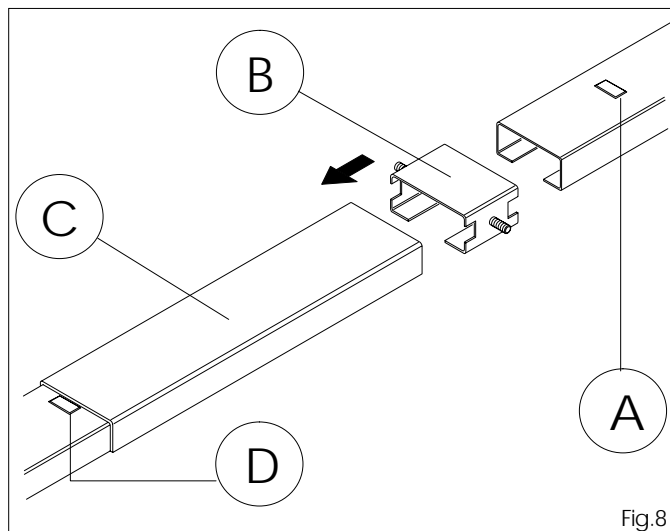
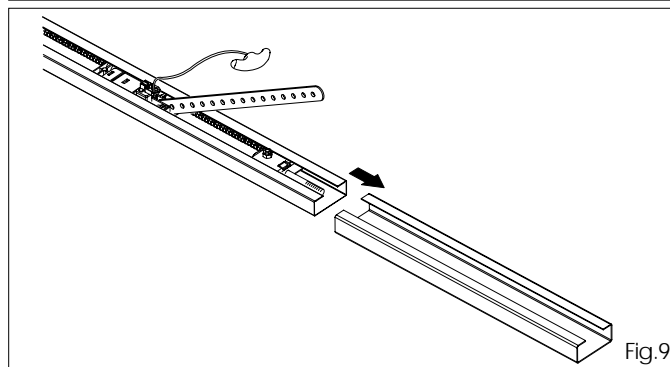
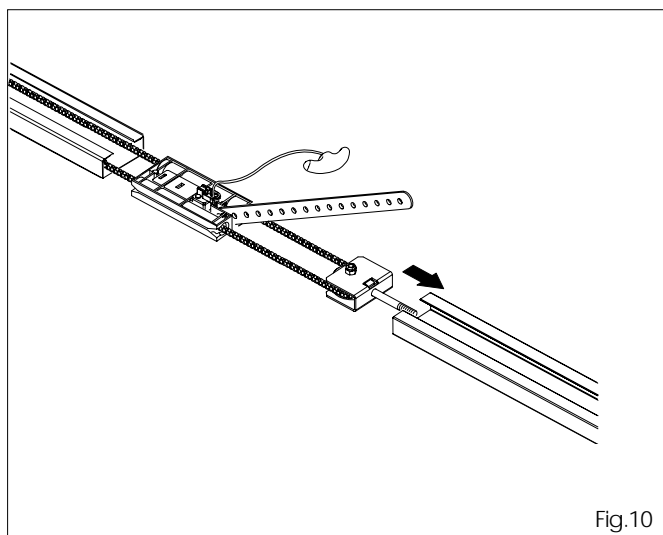

Fig.8
Fig.9
Fig.10
5.2 For the 530 operator, we advise you to use the optional guide (fig.8 ref.B), fitting it on the central slide (fig.8 ref.C).
5.3 Insert the longitudinal member with chain in the central slide (fig. 9) until it meets the metal projection (fig.8 ref.D).
5.4 Fit a new longitudinal member (fig.10) in the already installed unit, making sure that the metal projection shown in Fig. 8 ref.A comes into contact with the central slide.